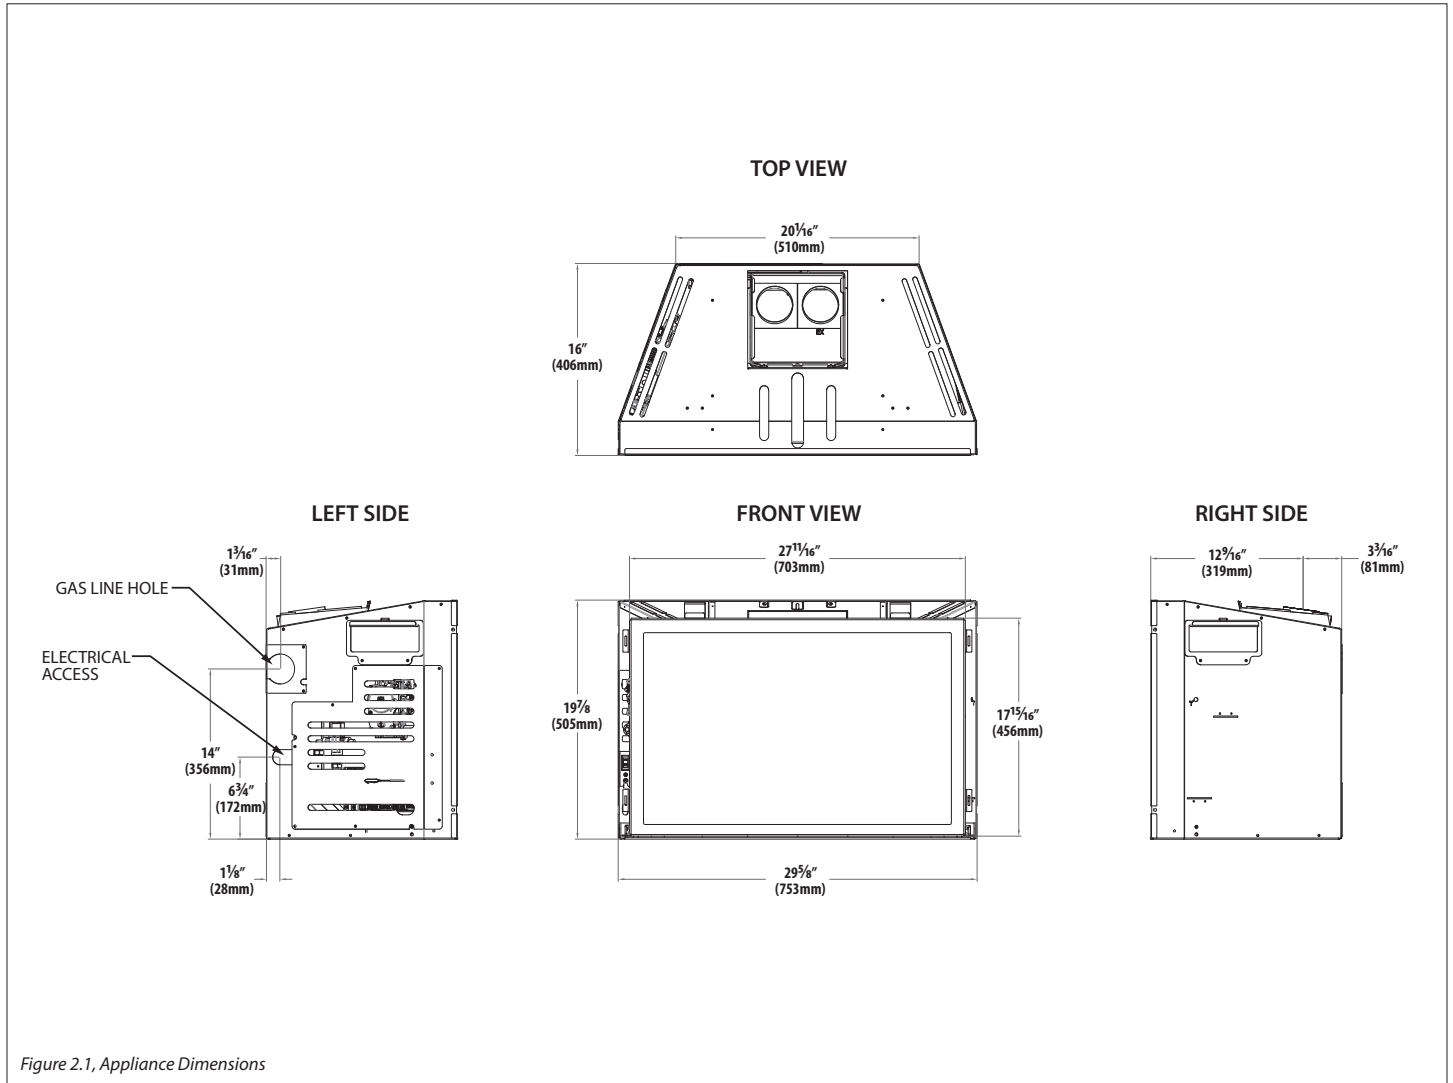

Figure 2.1, Appliance Dimensions
- A gas line must be able to be installed to the fireplace insert. Please refer to Figure 2.1 on page 9. The gas line access hole is located on the left side of the insert.
- See Figure 2.1 on page 9 for electrical outlet box location to run any necessary electrical wiring to the gas fireplace insert.